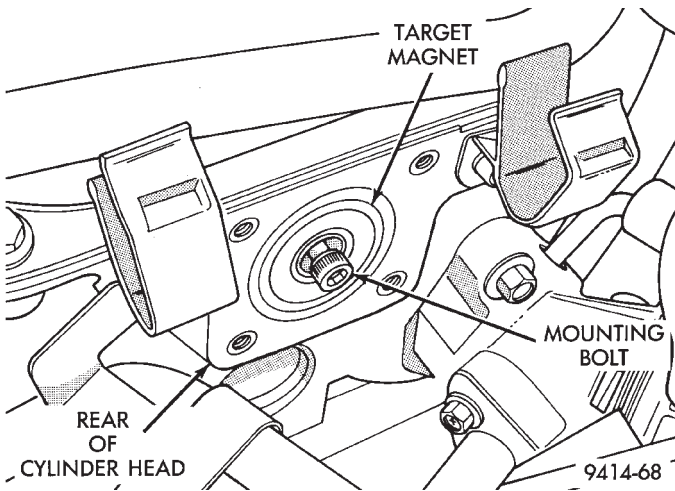

Fig. 41 Target Magnet Removal/Installation
- (1) Disconnect the filtered air tube from the throttle body and air cleaner housing. Remove filtered air tube.
- (2) Remove the air cleaner inlet tube.
- (3) Disconnect electrical connectors from engine coolant sensor and camshaft position sensor.
- (4) Remove brake booster hose and electrical connector from holders on end of cylinder head cover.
- (5) Remove camshaft position sensor mounting screws. Remove sensor.
- (6) Loosen screw attaching target magnet to rear of camshaft (Fig. 41).